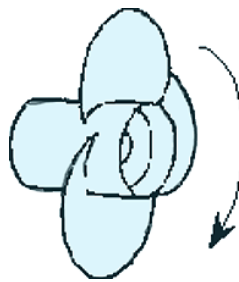

Figure 72.2 Diagram for question 8
8. The propeller shown in Figure 72.2, is turning in a clockwise direction. In which direction will the stern be driven when looking at the vessel from behind? Give reasons for your answer.